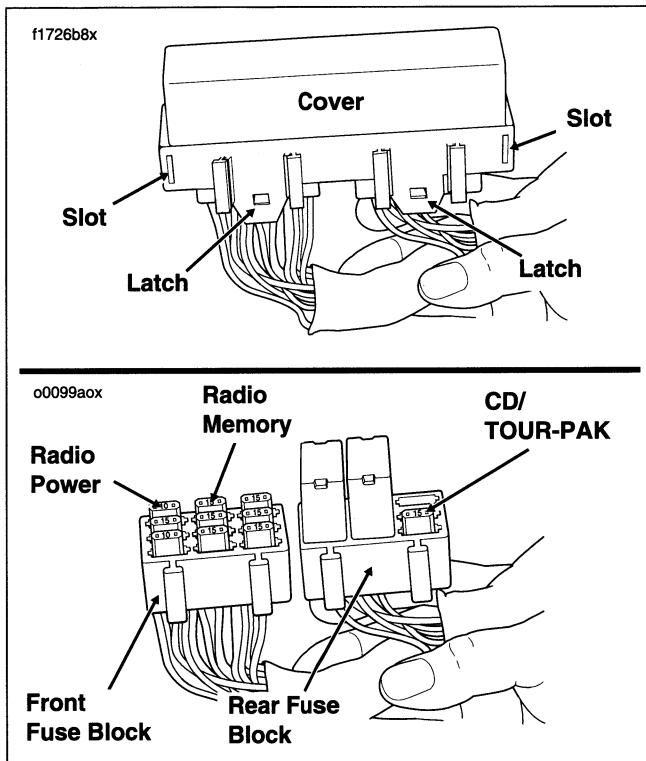

Figure 50. Fuse Blocks
5. See Figure 50. Locate the two radio fuses in the front fuse block.